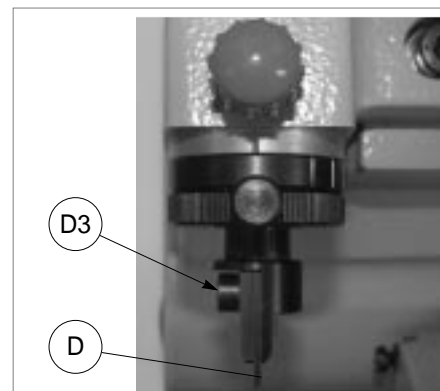

Fig. 22
Proceed as follows to replace the tracer point (D) (fig. 22):